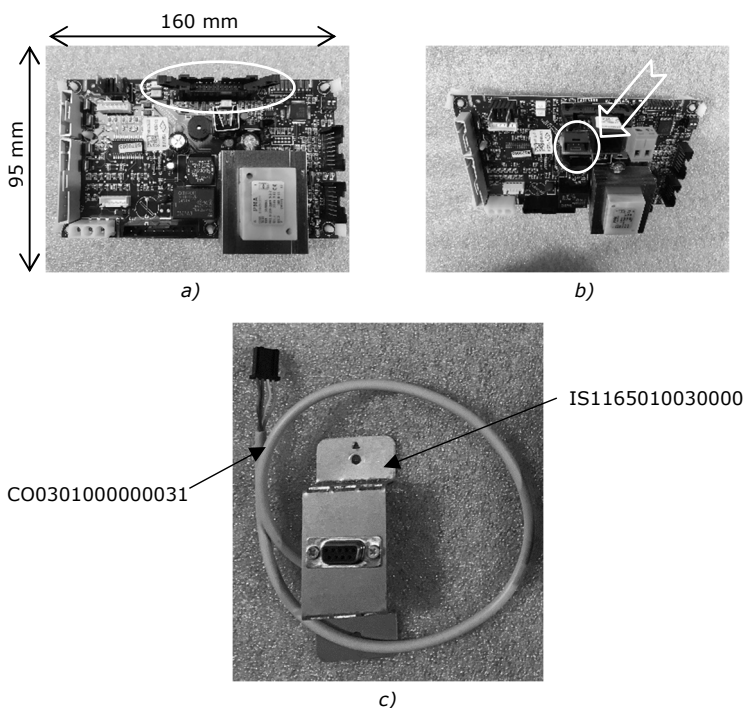

Figure 15 - Wi-Fi module V1 installation
• **Baby board (Table 1 equipment - Column C):** You should first put the Wi-Fi Baby Board (CO0312000000043) into input J5 and connect the cable (CO0301000000031) to input J4 on that board (Figure 15-a, Figure 15-b and Figure 15-c).